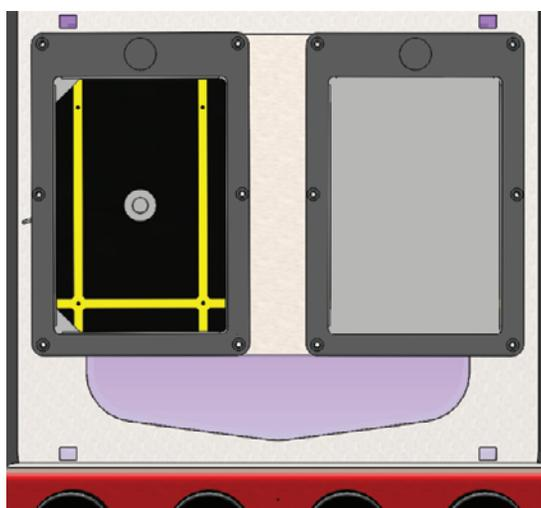

Figure 3. Microtiter calibration guide in rack 2.
- Place the **Microtiter Calibration Guide** in the left plate so that the intersecting yellow lines are closest to the quad stirrer (**Figure 3**).